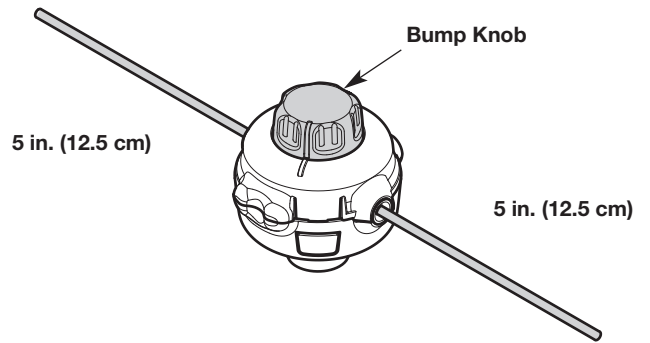

Fig. 20
- Turn the bump knob to wind the line until about 5 inches (12.5 cm) protrude from each side of the cutting head (Fig. 20).